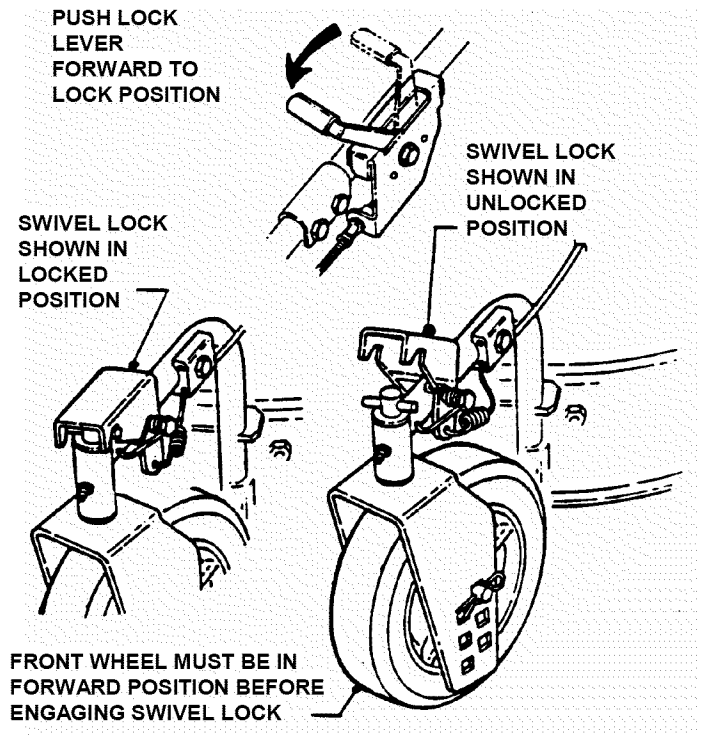

FIGURE 2.9
- Push wheel lock lever forward to lock swivel wheel in place. Swivel wheel will stay in the forward direction position. See Figure 2.9.